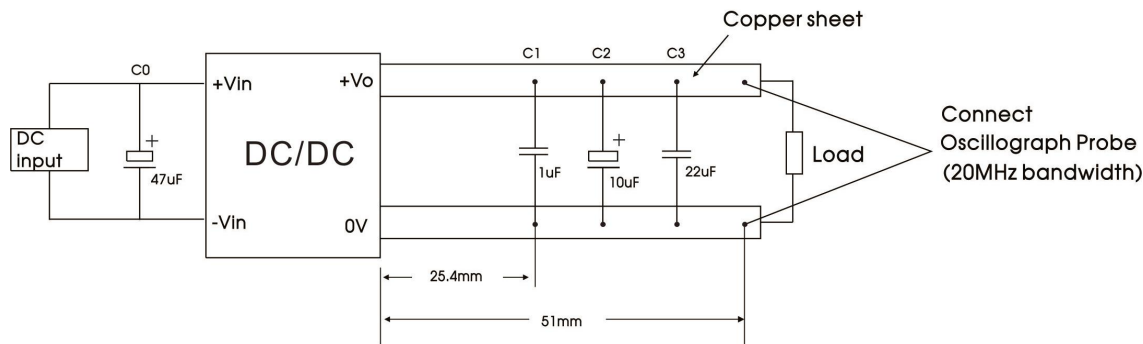

Fig. 2
② When testing from 0% -100%load working conditions, load regulation index is ±3%;
③ 0%-5% load ripple&Noise is no more than 300mV. Ripple and noise are measured by Fig.2
All the VRB_S-10WR3 series have been tested according to the following recommended test circuit before delivery (see Fig. 2). The connection of probe to copper foil is shortened as far as possible.